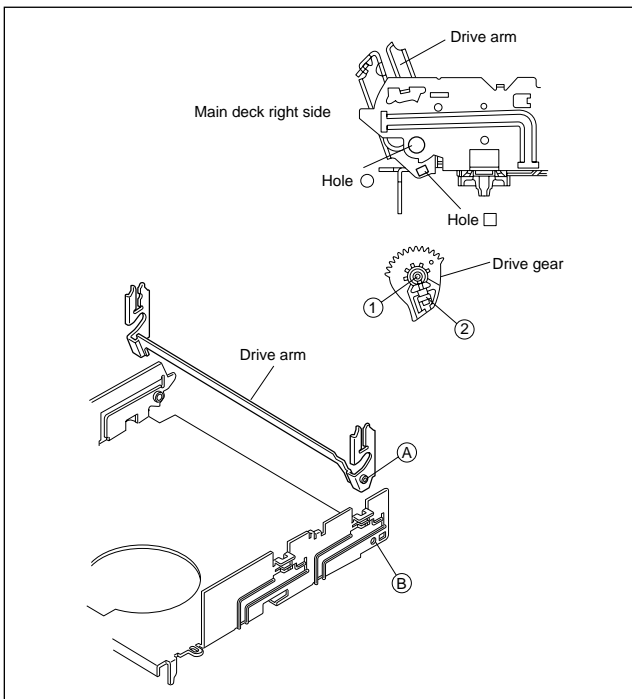

Fig. 2-2-3f
- (1) Insert the section (A) of the drive arm into the section (B) of the main deck.
- (2) Insert the section (1) of the drive gear into the round hole, and the section (2) into the square hole on the drive arm. (See Fig.2-2-3f.)